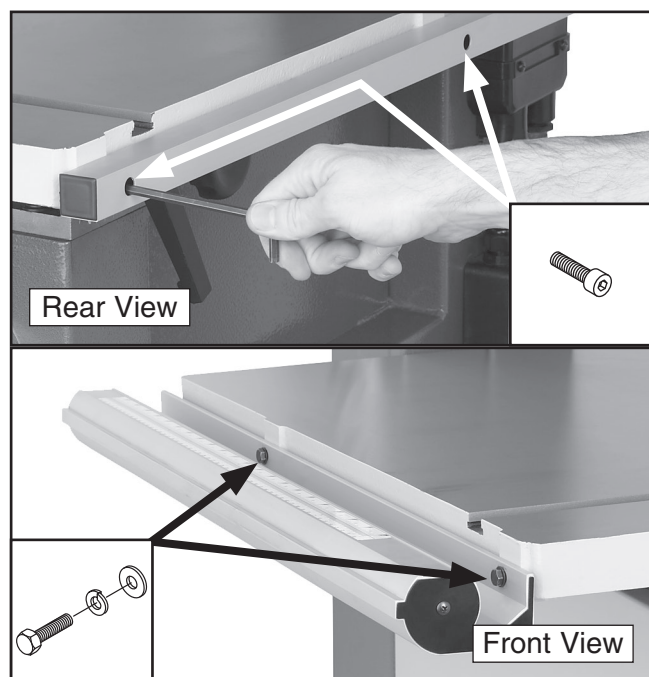

Figure 12. Rail installation.
13. Attach the rear rail to the table with the two M6-1 x 25 cap screws (see **Figure 12**).
14. Attach the front rail with the M6-1 x 20 hex bolts, lock washers, and flat washers as shown in **Figure 12**.